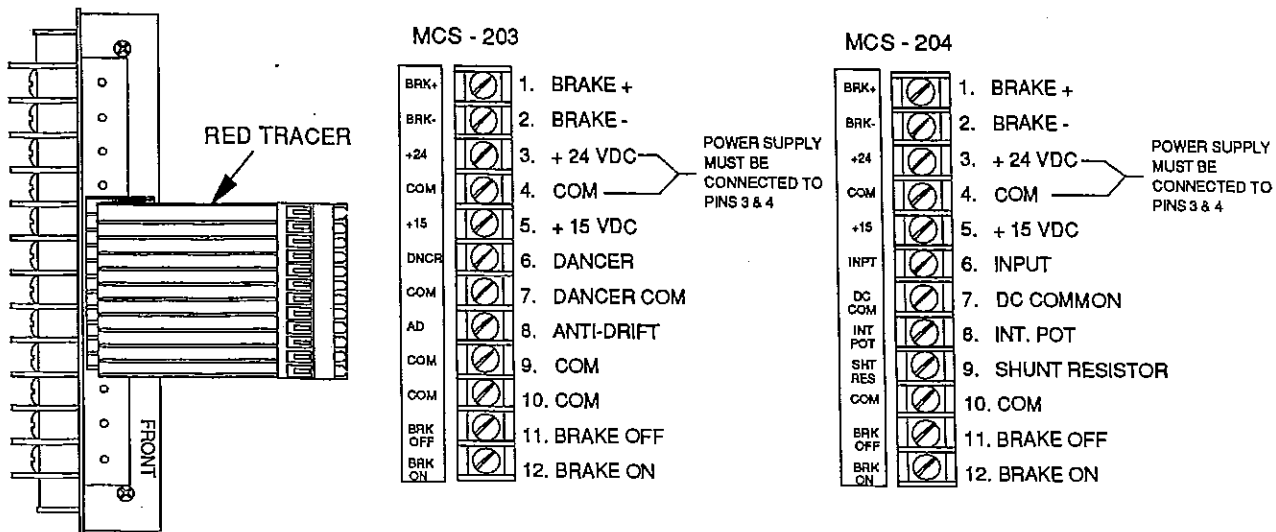

Figure 2. Terminal strip label orientation
- c. Apply the terminal strip label supplied with the control logic module to the PC Board as shown in Figure 2, page 6.